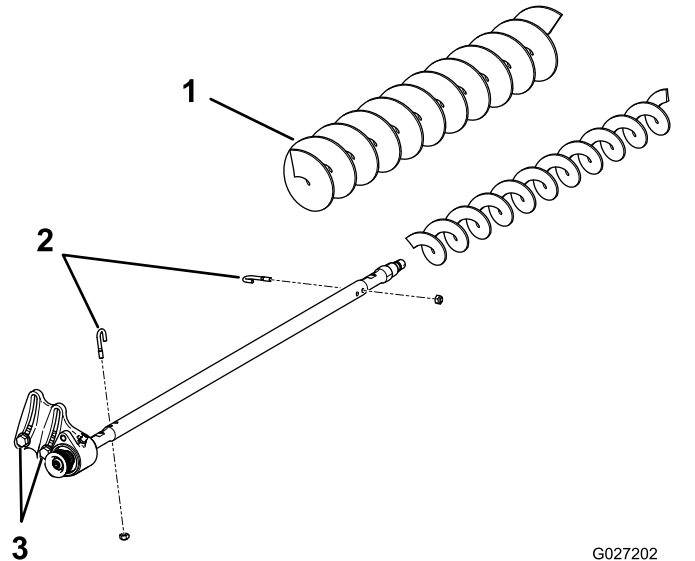

Figure 19
3. Remove the 2 J-bolts and the nuts (Figure 19).
4. Slide the existing brush off the brush shaft (Figure 19).
5. Loosen the 2 bolts, washers, and nuts securing the drive-bearing housing to the bearing-housing mounting bracket (Figure 19).
6. Slide the high height-of-cut brush onto the brush shaft (Figure 19).
7. Clamp the brush onto the shaft with the 2 J-bolts and nuts previously removed (Figure 19).